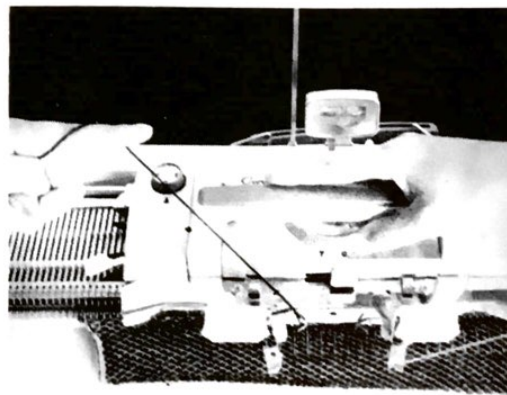

Fig. 43
Turn right hand Pattern Control Knob to "A". Push back 2 needles at the carriage end opposite Nos. 2 and 4 on the N. S. G. S. into Position (B). Form a loop in the end of the contrasting colour wool and hang it onto the hook of the needle in Position (B) nearest the end. Pull Main Feeder out of action, and hold the contrasting colour with your left hand and guide it into the leading Subsidiary Yarn Feeder (left hand). Push in the leading Needle Forwarding Lever move the carriage across the needles. (Fig. 43) This completes the 2nd row.